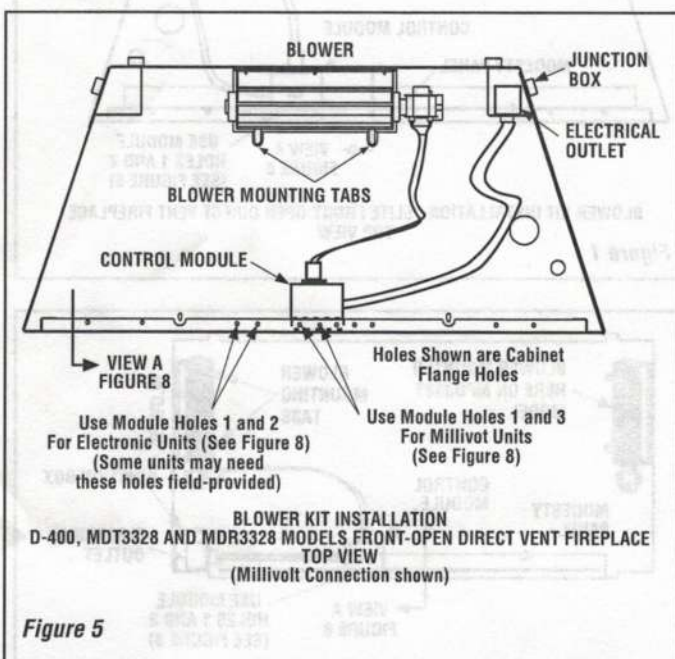

Figure 5
- d - see **Figure 5** for D-400, MDT3328 AND MDR3328 units;